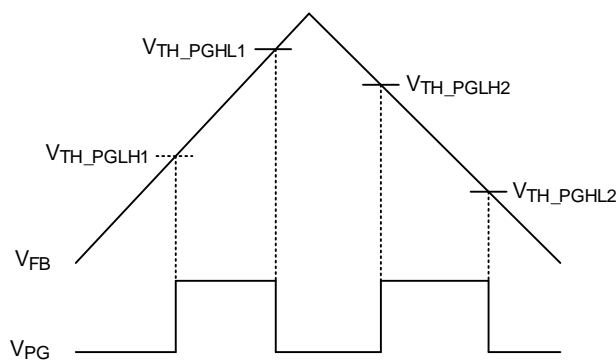

Figure 3. The Logic of PG
The RTQ2105-QA features an open-drain power-good output (PG) to monitor the output voltage status. The output delay of the comparator prevents false flag operation for short excursions in the output voltage, such as during line and load transients. Pull up PG with a resistor to VCC or an external voltage below 5.5V. The power-good function is activated after the soft-start is finished and is controlled by a comparator connected to the feedback signal VFB. If VFB rises above a power-good high threshold (VTH_PGLH1) (typically 90% of the reference voltage), the PG pin will be in high impedance and VPG will be held high after a certain delay elapsed. When VFB exceeds VTH_PGHL1 (typically 120% of the reference voltage), the PG pin will be pulled low. Moreover, the IC turns off the high-side MOSFET switch and turns on the low-side MOSFET switch until the inductor current reaches ISK_L if the MODE pin is set high. If the VFB is still higher than VTH_PGHL1, the high-side MOSFET switch remains prohibited and the low-side MOSFET switch will turn on again in the next cycle. If the MODE pin is set low, the IC turns off the low-side MOSFET switch once the inductor current reaches zero current unless VBOOT-SW is too low. For VFB higher than VTH_PGHL1, VPG can be pulled high again if VFB drops back by a power-good high threshold (VTH_PGLH2) (typically 117% of the reference voltage). When VFB falls short of the power-good low threshold (VTH_PGHL2) (typically 85% of the reference voltage), the PG pin will be pulled low. Once started up, if any internal protection is triggered, PG will be pulled low to ground. The internal open-drain pull-down device (10Ω, typically) will pull the PG pin low. The power-good indicator profile is shown in Figure 3.